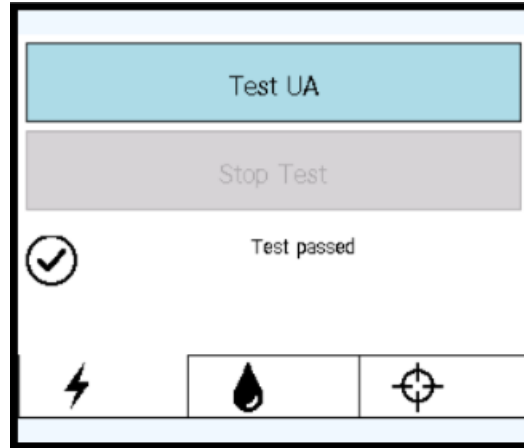
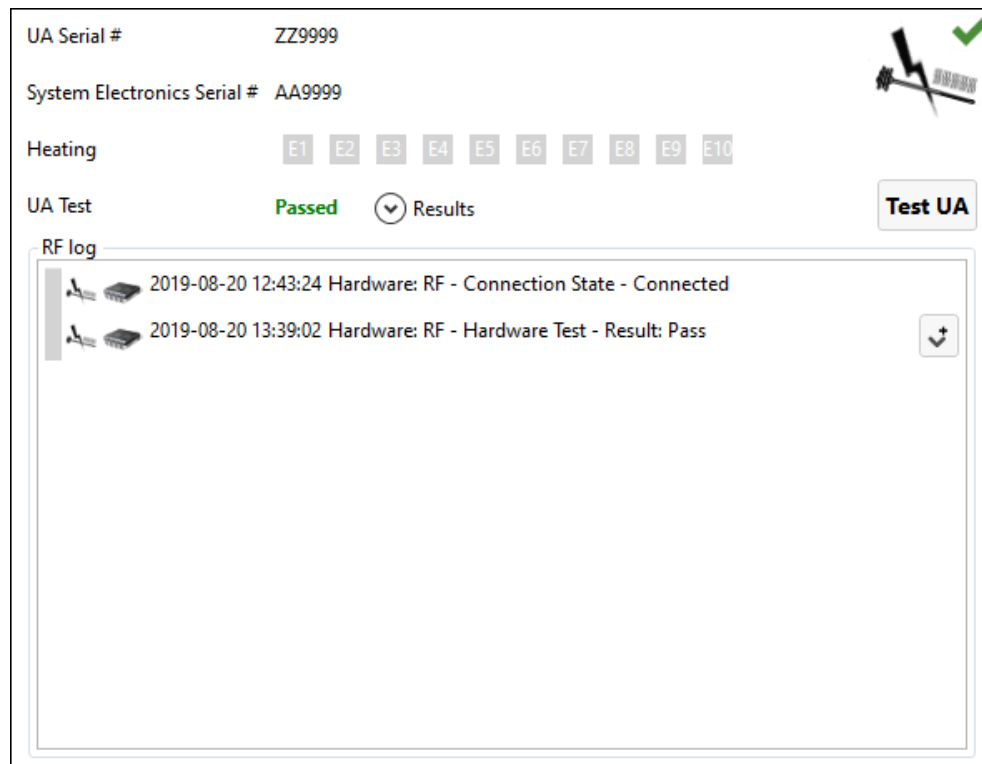

Figure 14: RF tab on PSIB display after successful RF connectivity test
Figure 15: RF information box in Setup workspace after successful RF connectivity test
3. In the **RF** tab ⚡ of the PSIB display, click **Test UA** (*Figure 14*).
The system will send a short burst of power to each of the ten UA elements to ensure continuity and functionality of all ten channels. This can also be done from the TDC Setup workspace from the RF information box in the top-right quadrant (*Figure 15*).
When the RF connectivity test is complete, the PSIB will display a short message (*Figure 14*). You can see detailed RF connectivity test results in the RF information box of the TDC software (*Figure 15*).